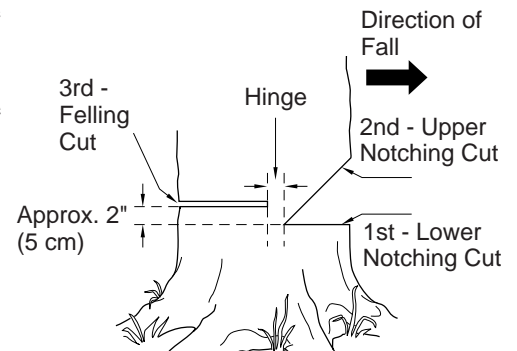

Figure 12 - Felling A Tree
1. Make the first lower notching cut 1/3 the diameter of the tree and perpendicular to the line of fall. This will help to avoid pinching of either the saw chain or the guide bar when the second notching cut is made (See Figure 12).
3. Make the felling back cut at least 2 inches higher than the horizontal notching cut as illustrated in Figure 12. Keep the felling back cut parallel to the horizontal notching cut. Make the felling back cut so enough wood is left to act as a hinge. The hinge wood keeps the tree from twisting and falling in the wrong direction. **DO NOT** cut through the hinge.